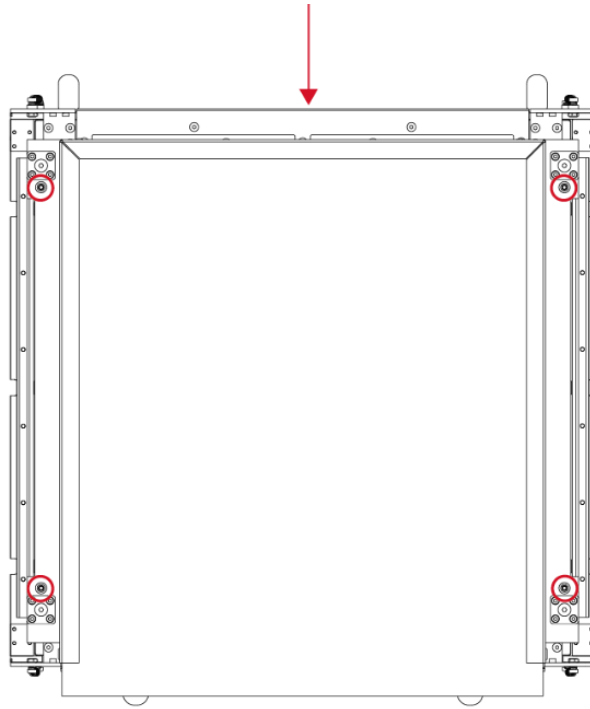

Fig. 77 Adjustment knobs located under the heatbed (the red arrow marks the front of the printer)
12. Lower the heatbed by loosening the four adjustment knobs underneath the printed bed (Fig. 77, red). To do this, turn each knob several times ccw.